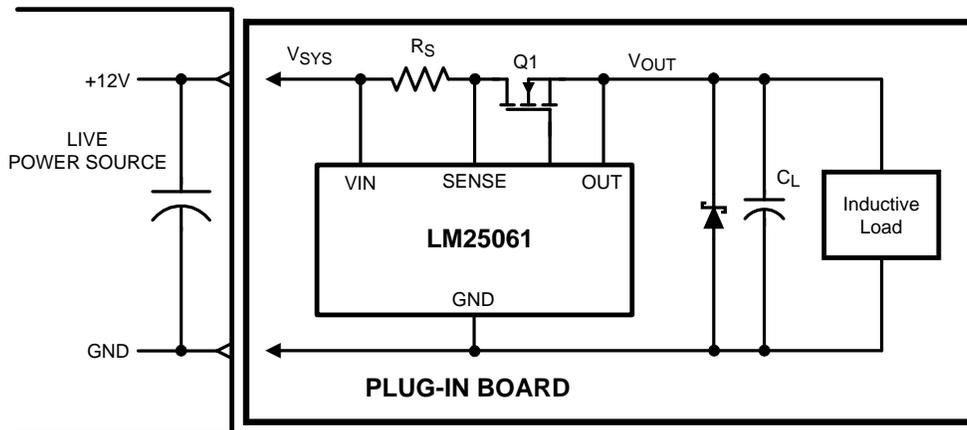

Figure 37. Output Diode Required for Inductive Loads
- If the load powered by the LM25061 hot swap circuit has inductive characteristics, a Schottky diode is required across the LM25061’s output, along with some load capacitance. The capacitance and the diode are necessary to limit the negative excursion at the OUT pin when the load current is shut off. If the OUT pin transitions more than 0.3V negative the LM25061 will internally reset, interfering with the latch-off feature of the LM25061-1, or the restart cycle of the LM25061-2. See Figure 37.